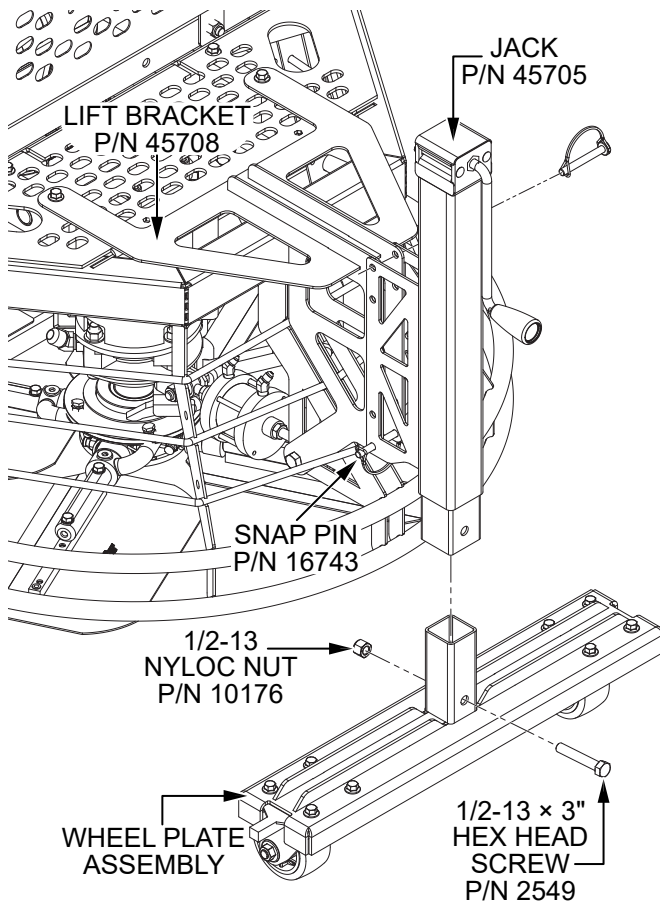

Figure 5. Install Jack and Wheel Plate
- Secure a jack (P/N 45705) to the lift bracket (P/N 45708) using two snap pins (P/N 16743). See Figure 5.
- Secure a wheel plate assembly to the jack (P/N 45705) using a 1/2-13 x 3" hex head screw (P/N 2549) and 1/2-13 nyloc nut (P/N 10176). See Figure 5.